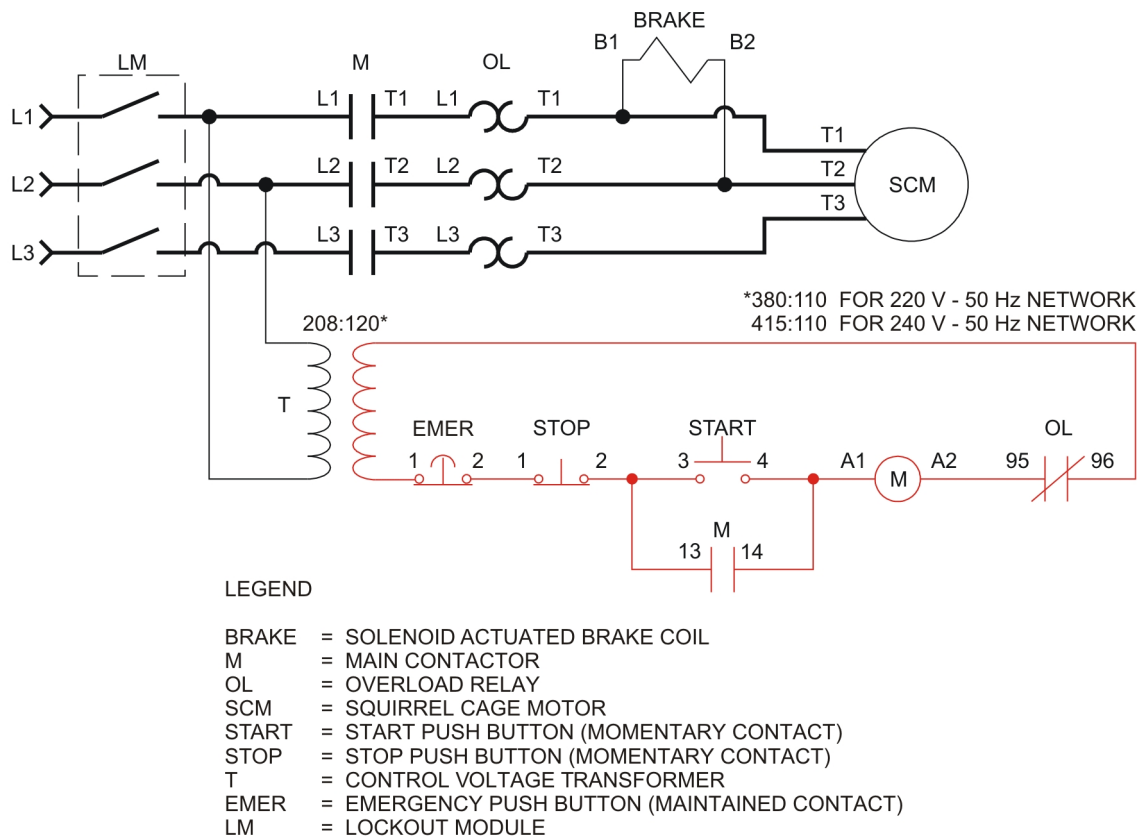

Figure 4-6. Motor starter circuit with friction brake.
16. Connect the circuit shown in Figure 4-6.